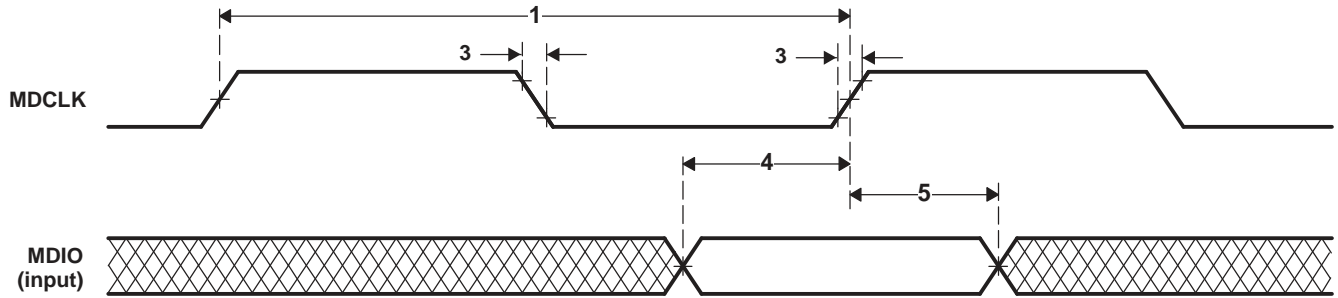
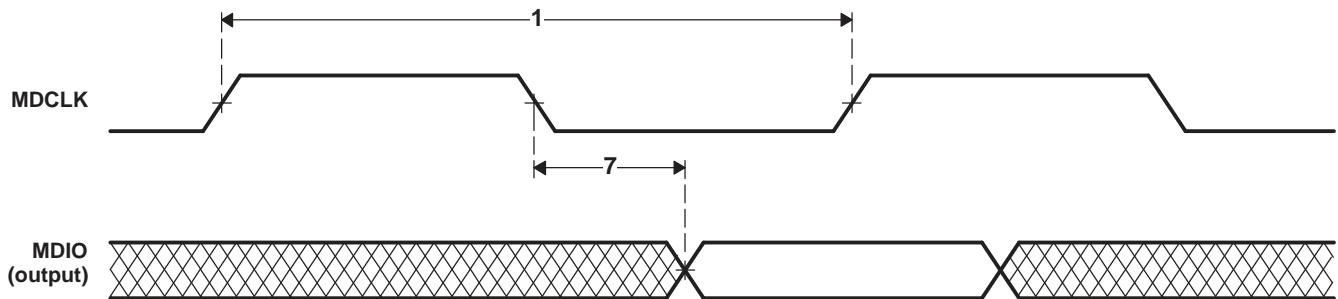

Figure 6-63. MDIO Input Timing
Figure 6-64. MDIO Output Timing
**Table 6-97. Timing Requirements for MDIO Input (see Figure 6-63 and Figure 6-64)**
Table 6-98. Switching Characteristics Over Recommended Operating Conditions for MDIO Output (see Figure 6-64)
**Table 6-103. Timing Requirements for Keyscan (see Figure 6-63 and Figure 6-64)**